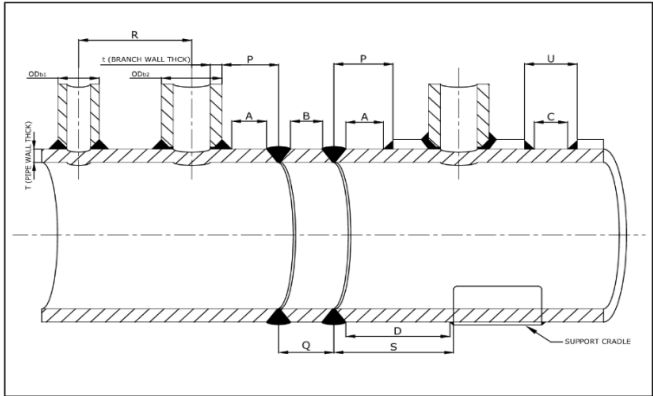

Fig. 1. Example from Fluor Executed Project
modularization limits. Appropriate weld placement therefore demands a clear understanding of installation constraints and prevailing site conditions. In carbon steel piping, the heat-affected zone (HAZ) typically extends approximately 3 – 5 mm beyond the visible fusion line of the weld. While major piping codes such as ASME B31.3, EN 13480, and similar standards do not specify a mandatory minimum spacing between circumferential welds, weld-to-weld spacing is generally governed by project specifications (refer Example Fig. 1) and established industry practice to safeguard weld quality, manage residual stresses, and ensure long-term service performance.
- Minimum clearance:** Maintain at least 150 – 200 mm around weld joints. Or follow the client and industry specification (Fig. 1).